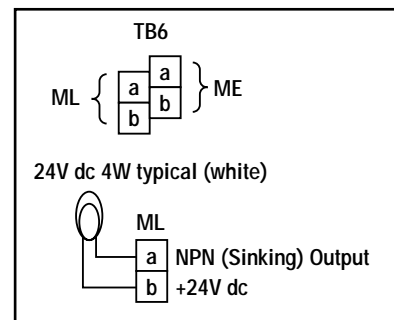

Figure 3-19. Monitored lamp hookup
TB6 provides connection terminals for one input, Mute Enable (ME a/b), and one output, Mute Lamp (ML a/b) (see Figure 3-19). The Mute Lamp (ML) output is to provide a visible indication when the safeguarding function of the safety light screen is muted. This indication must be readily observable. Failure of this indication should be detectable and prevent the System from being muted, or the operation of the indicator should be verified at suitable intervals (see 2.10.3).